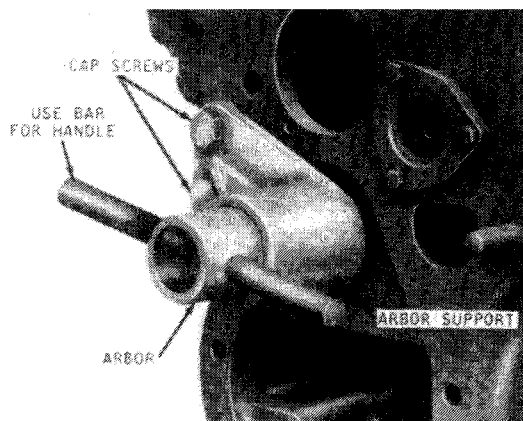

Fig. 128—Install special support and arbor to hold parts while assembling differential drive shaft. Refer to text.
Install JDT-26-2 installation tool (Fig. 128) and JDT-26-1 arbor shaft on Model 4650 or JDT-8-1 installation tool and JDT-20-1 arbor on all other models to support parts while assembling. Position "A" range gear (6—Fig. 136) in rear of case with shifter spline teeth facing forward (gear would be difficult to install later). Position "C" range gear (17) on arbor shaft with shifter spline teeth facing rearward. Make certain "C" range gear is completely forward against housing wall, otherwise rear snap ring cannot be installed. Move the arbor shaft rearward while assembling components in the following order: Install front shifter gear (16—Fig. 136) with snap ring recess rearward, shifter collar (15), the thinnest snap ring with its expander retainer and thrust washer (14). Install "B" range gear (13) with shifter spline facing forward. On Model 4650, special stepped thrust washer (12) must be installed with flat side toward "B" range gear. On all other models, this thrust washer is flat on both sides and may be installed either way. Install second thinnest snap ring with retainer and thrust washer (11). Install "D" range gear (10) with shifter splines facing rearward and second thickest snap ring with retainer. Install rear shifter gear (9) with snap ring recess to the rear, shifter collar (8) and thickest snap ring with retainer.
Illustration for Fig. 128 reproduced by permission of Deere & Company. Copyright Deere & Company.